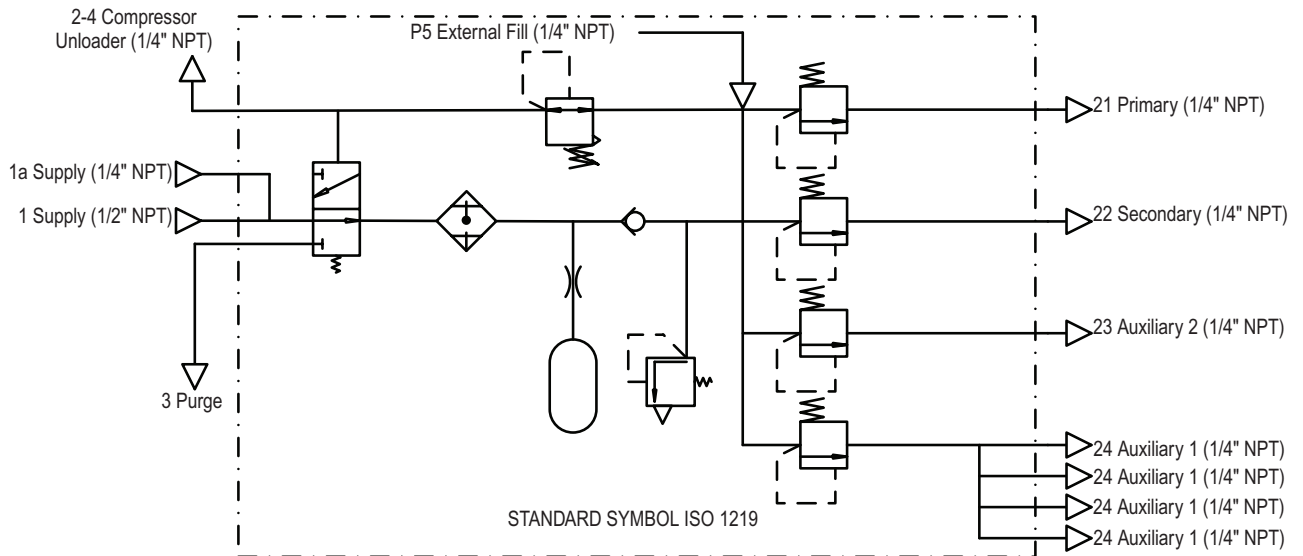
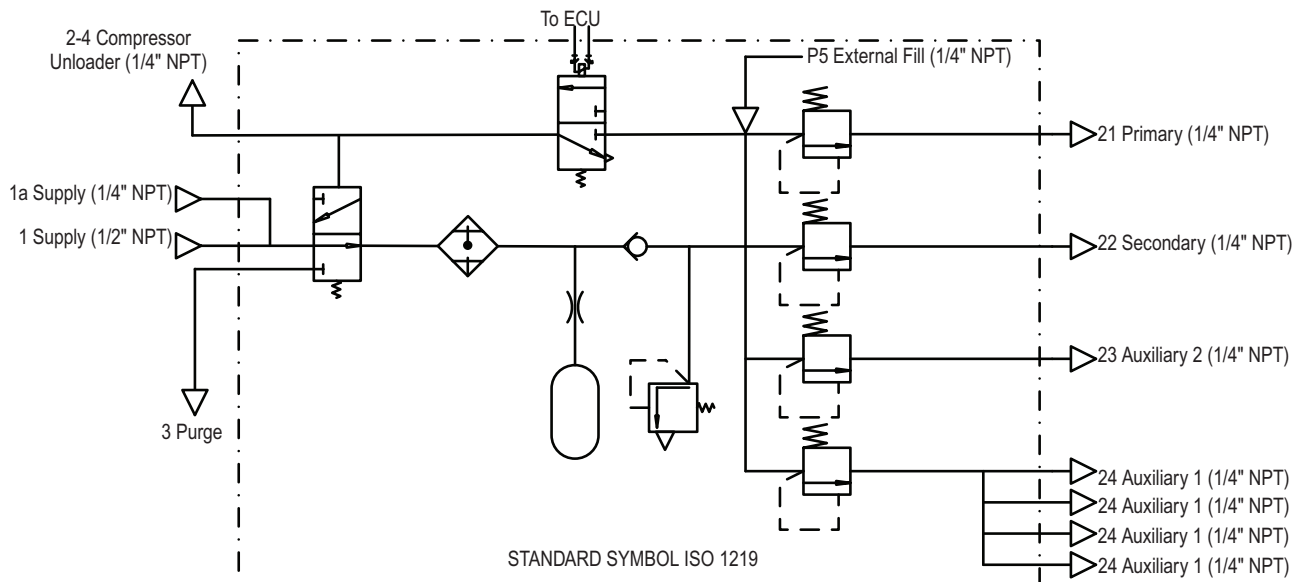

Figure 4 – Bendix® AD-HF® Air Dryer ISO Schematic
Figure 5 – Bendix® AD-HFⁱ Air Dryer ISO Schematic
Figure 4 shows an ISO schematic diagram of how the AD-HF air dryer functions. Figure 5 shows an ISO schematic of how the AD-HFi air dryer functions.
- A. Electric Power to the Dryer (*Refer to Figure 4*)